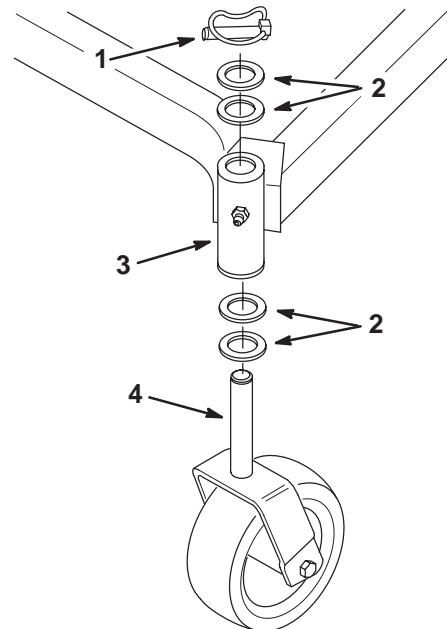

Figure 33
2. Remove the linchpin and thrust washer(s) from the top of the castor wheel fork (Fig. 33).
5. Inspect the castor wheel fork for wear and replace if necessary (Fig. 33).
6. Slide the castor wheel fork through the bushings in the mounting tube. Replace the thrust washer(s) onto the fork and secure with the linchpin (Fig. 33).